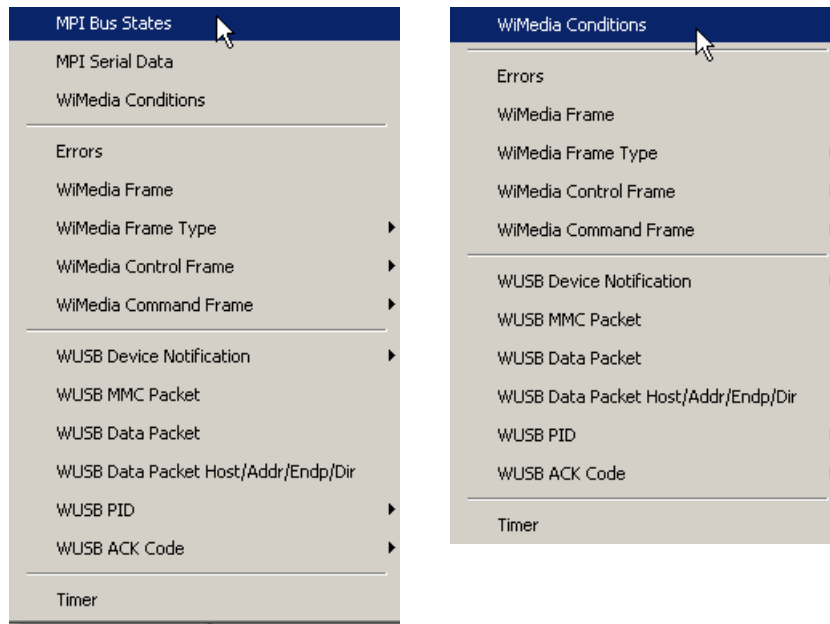

Figure 12.10 Creating a New Event
Step 1 Click the **New Event** button at the left side of the toolbar to display the New Event pop-up menu (Figure 12.10) for MPI or RF.